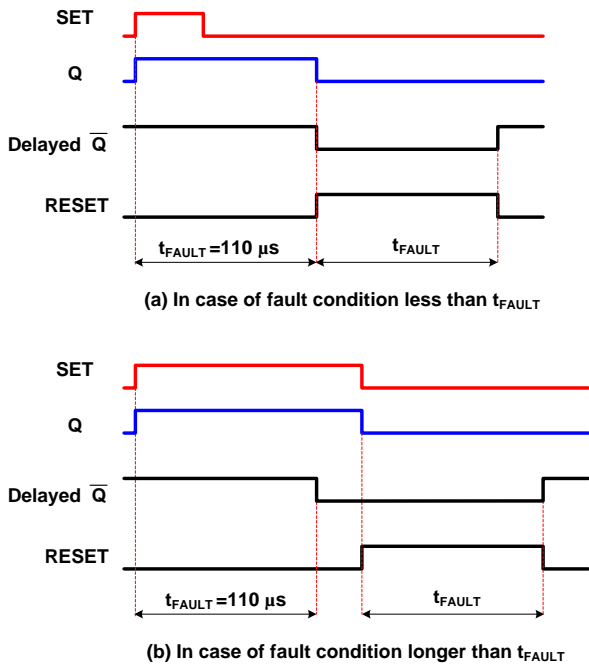

Figure 45. Timing Definition of Fault-Out
If fault condition time is less than fault clear time (Case-a), the pulse width of fault-out (FO) is 110  $\mu$ s. If longer (case-b), pulse width of fault-out same with fault condition time as shown in Figure 45.